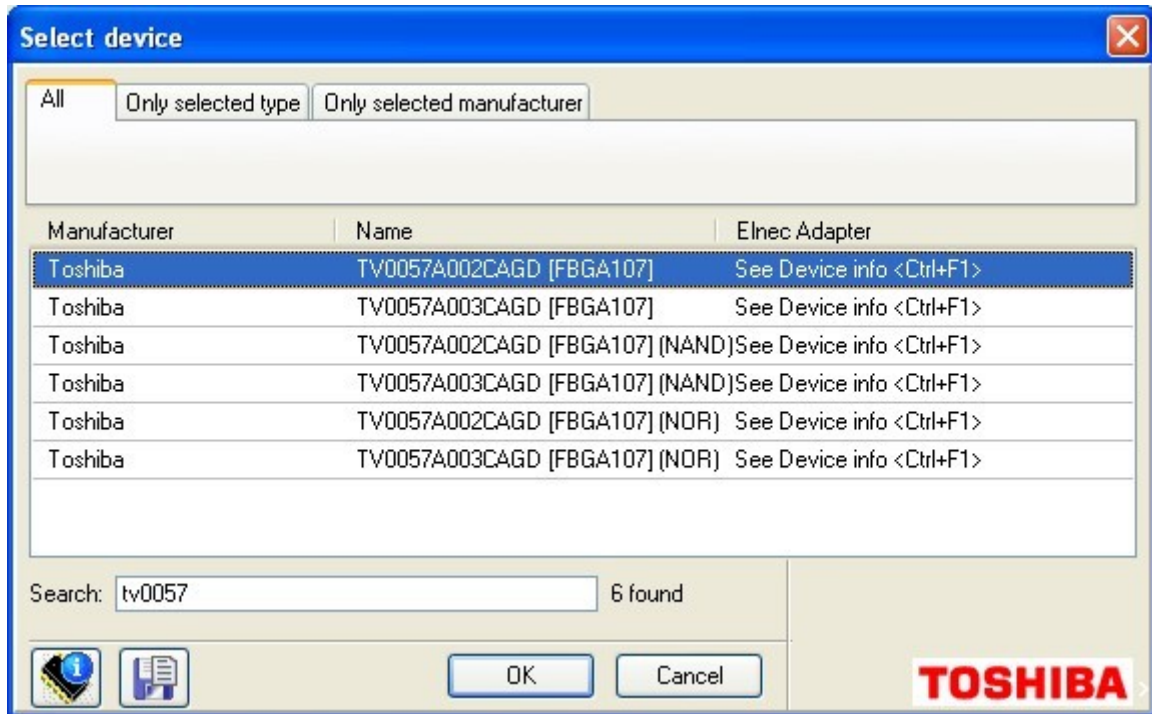

Figure 16: Selecting Master-device.
1. Having Project files available for all Sub-devices, you can finally build the Multi-Project file. Display Select device window again and select the Master-Device, i.e. TV0057A002CAGD [FBGA107] in this example (see Figure 16). Empty Multi-Project Wizard window displays, see Figure 2.